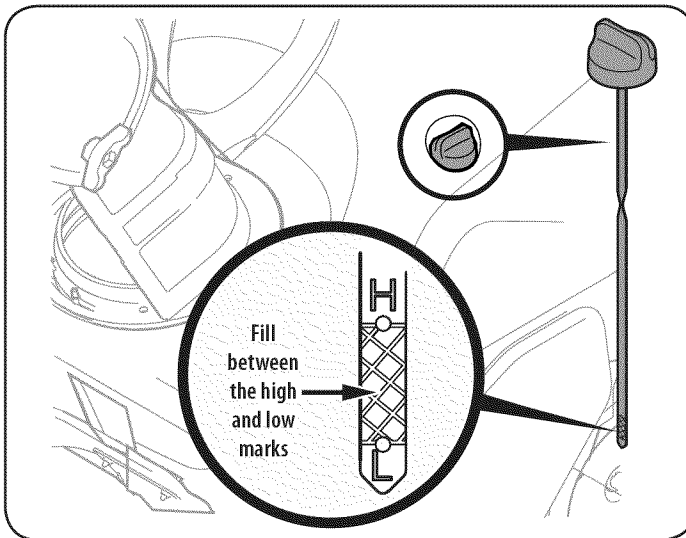

Figure 8
4. Remove the oil filler cap/dipstick. If the level is low, slowly add oil until oil level registers between high (H) and low (L), Figure 8.